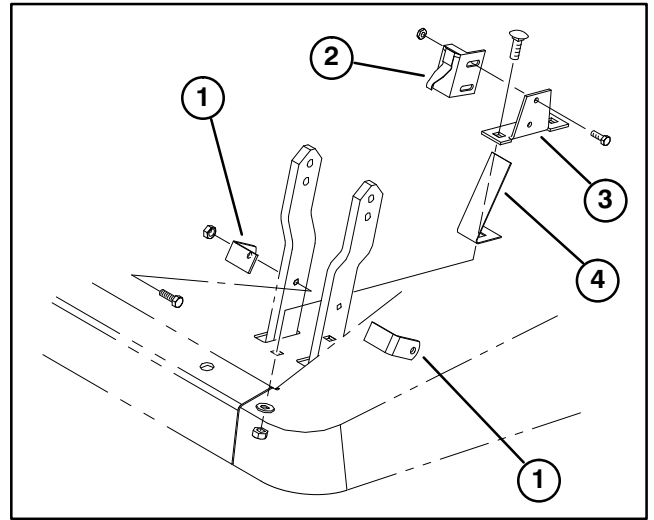

Figure 10
23. Mount an actuator bracket to the outside of each brake pedal with a M6 x 1.00 x 20 capscrew and nut. Position brackets and fasteners as shown in figure 10.
24. Loosely mount switch to switch bracket with (2) #10–24 x 1/2" lg. capscrews and lock nut, as shown in figure 10.
25. Locate pillow block bearing secured to under side of floor plate between brake pedals. Remove (2) carriage bolts, flat washers and nuts securing bearing to floor plate.
26. Using carriage bolts, flat washers and nuts, removed in previous step, mount switch bracket and spring arm to floor plate (Fig. 10).